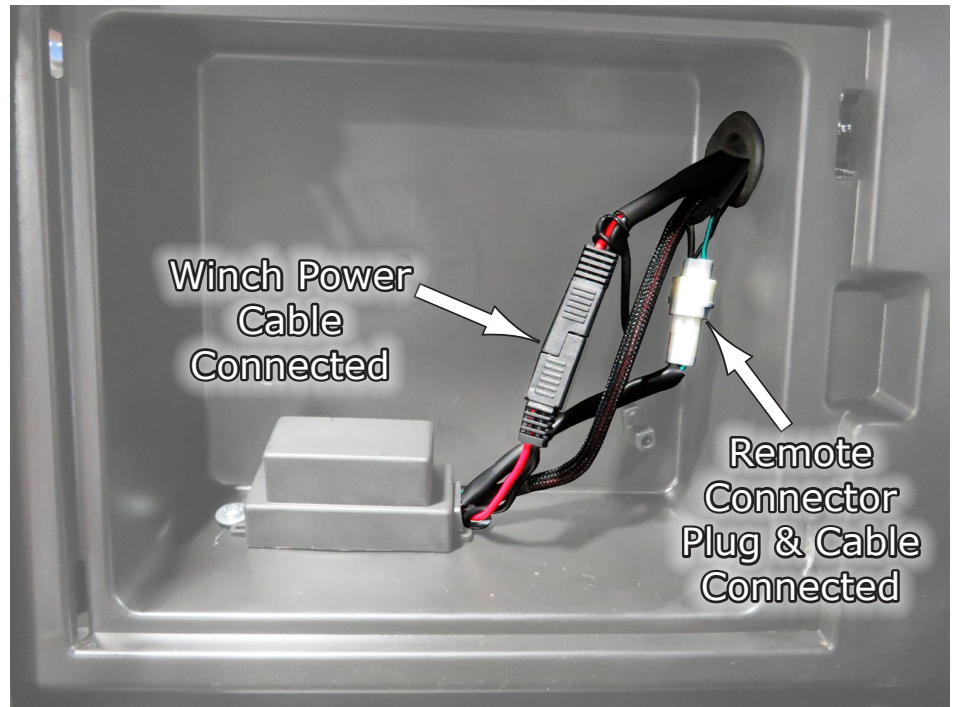

Fig.12
12. After the connector plug is installed, then connect the plugs together for the **Winch** and the **Remote** as shown in **Fig.12**.